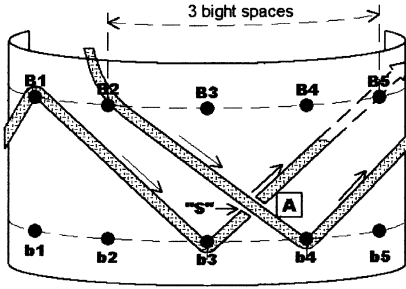

Figure 7a (4x5)
- At Fig.7a the active strand $b\frac{3}{3}$ -B5 crosses the passive strand B2-b4 at